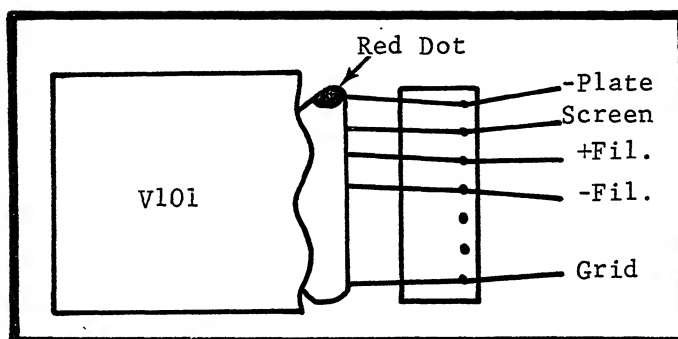

FIGURE 15. Base Connections for Electrometer Tube V101.
4. With no feedback, any change in voltage at the input stage of the amplifier is amplified by successive stages, and can be measured with the Model 610B Electrometer. The voltage change at the input stage can be produced by rotating the ZERO control from a complete counter-clockwise position to a complete clockwise position. The first stage which does not produce a voltage change comparable to those shown in Table 6, should be checked for defective components. All voltages are measured from chassis ground. Base connections to the electrometer tube are shown in Figure 15. Check voltages in the order given in Table 6.